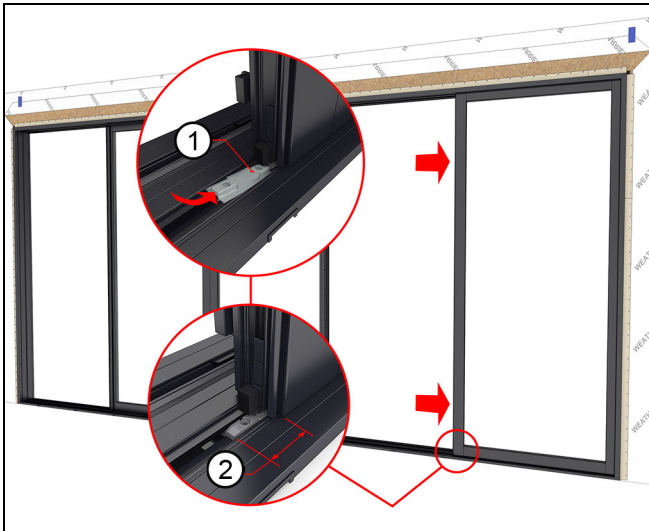

Figure 134
6. Snap the lower stationary bracket onto sill, then slide underneath the (H) stationary panel until fully seated. The bracket should stick out approximately 2 1/4" (57) from panel when fully seated. Fasten with #8 x 1/2" self drilling screw. See Figure 134.